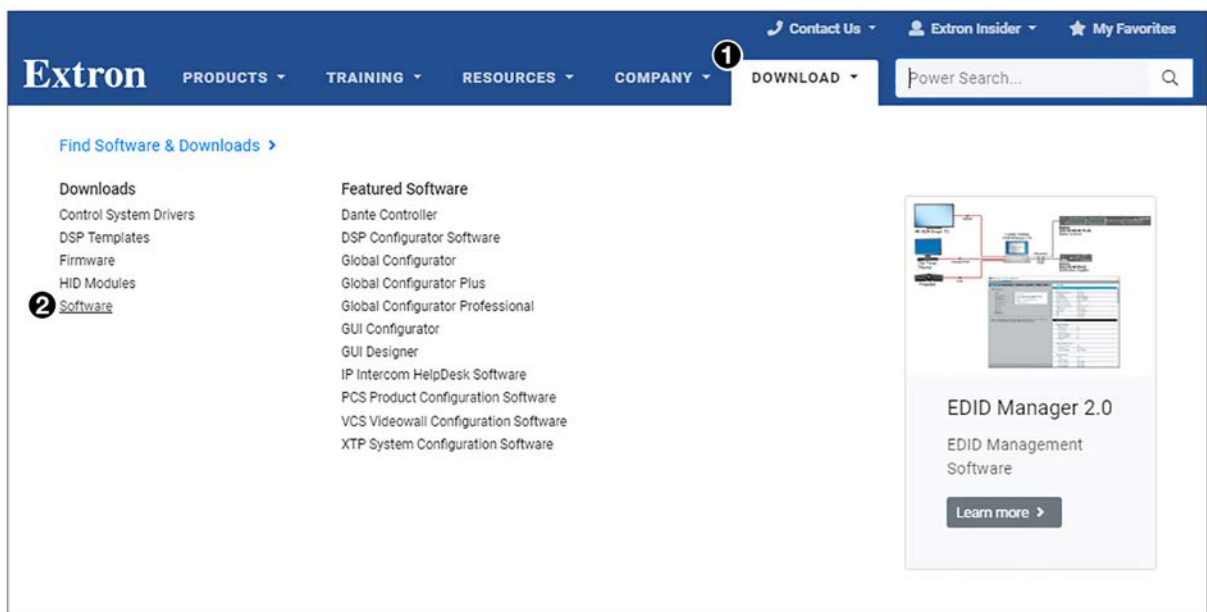

Figure 32. Download Center Page on the Extron Website
1. On the Extron website, select the **DownLoad** tab (see figure 32, **1**).
2. Move the pointer to the **Software** link (see figure 32, **2**, on the previous page) in the Downloads column and click it.